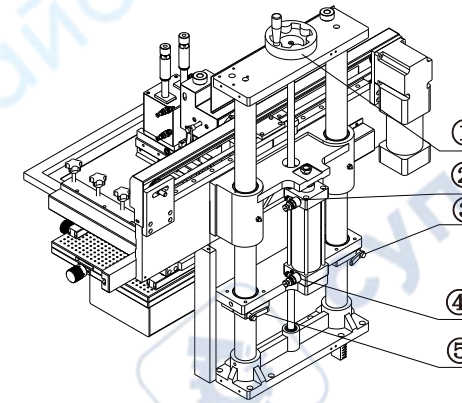

Fig. 8
- (1) Release the robot arm locking handle ③ ⑤ as shown in Fig. 8.
- (2) Adjust the knot ① clockwise direction rotation of the PCB distance from the steel mesh gap expanded, counterclockwise rotation PCB distance from steel mesh gap reduction.
- (3) Lock handle ③ ⑤ after adjustment.
- (1) Turn throttle valve ② counterclockwise, the robot arm rises faster, rotates throttle valve ② clockwise, then the rising speed of the robot arm slows down as shown in Fig. 8.
- (2) Counterclockwise rotate throttle valve ④, then the robot arm drop speed is accelerated. Clockwise rotate throttle valve ④, then the slowing down the speed of the robot arm as shown in Fig. 8.